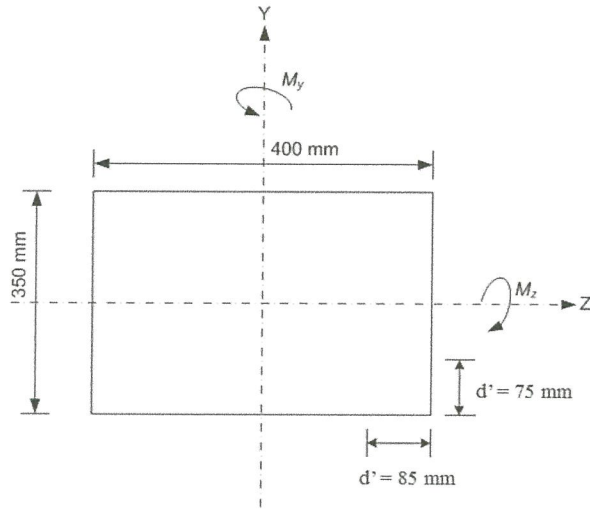

FIGURE Q3(c)
Q3 A new five storeys reinforced concrete apartment building will be built in the Johor Bahru area. Referring to **Figure Q3(a)** and **Figure Q3(b)**, the column should be designed as a braced member. All beams and columns are designed with the size of 250 x 450 mm and 350 x 400 mm respectively. From the loading analysis, the first lift of the column carried an ultimate axial load of 2500 kN. Bending moments of 50 kN/m and 35 kN/m about major and minor axes respectively. Given the maximum bar diameter = 25 mm, minimum bar diameter = 16 mm, link diameter = 6 mm, concrete cover = 30 mm, $f_{ck} = 25 \text{ N/mm}^2$, $f_{yk} = 500 \text{ N/mm}^2$ and slenderness limit, $\lambda_{lim} = 31$.
- (c) Classify the column C/2, Ground level to Level 1 whether it is short or slender for both axes and determine the design moment for the column as shown in **Figure Q3(c)**.